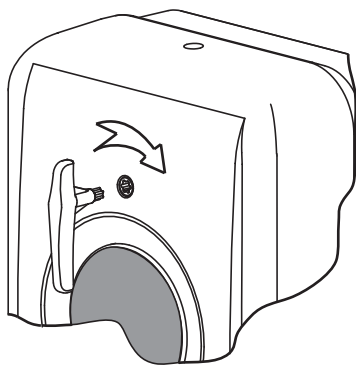

Figure 15 Adjusting screw
- 7.1 Before turning on the electricity and mains water to the hand wash, ensure the torx adjusting screw is turned fully anti-clockwise - see figure 15 below.